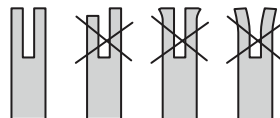

Fig. 22
5. Check the guide bar 'rail' for wear: Hold a ruler (straight edge) against the side of the guide bar and 'cutter side plates'. If there is a gap between the ruler and guide bar the guide bar 'rail' is normal. If there is no gap (ruler flush against the side of the guide bar) the guide bar 'rail' is worn and needs to be replaced with a new one of the same type (Fig. 22.)